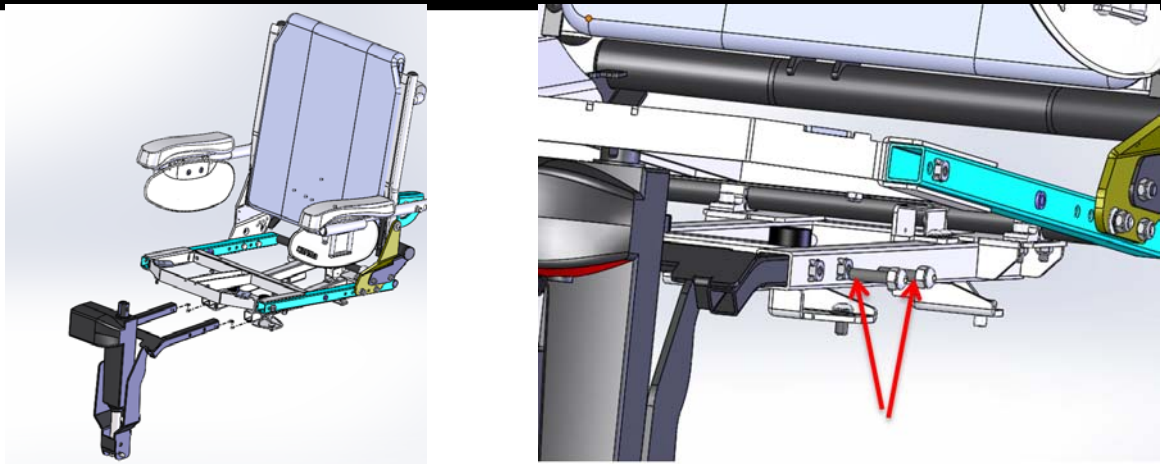

Figure 5.3.19-10
5.3.19.13 Insert hex head shoulder bolt into the upper hole on the base of the tilt actuator. Use the hex Nylon dome nut to fasten the bolt in order to fix the tilt actuator on the seat frame. (Figure 5.3.19-11)